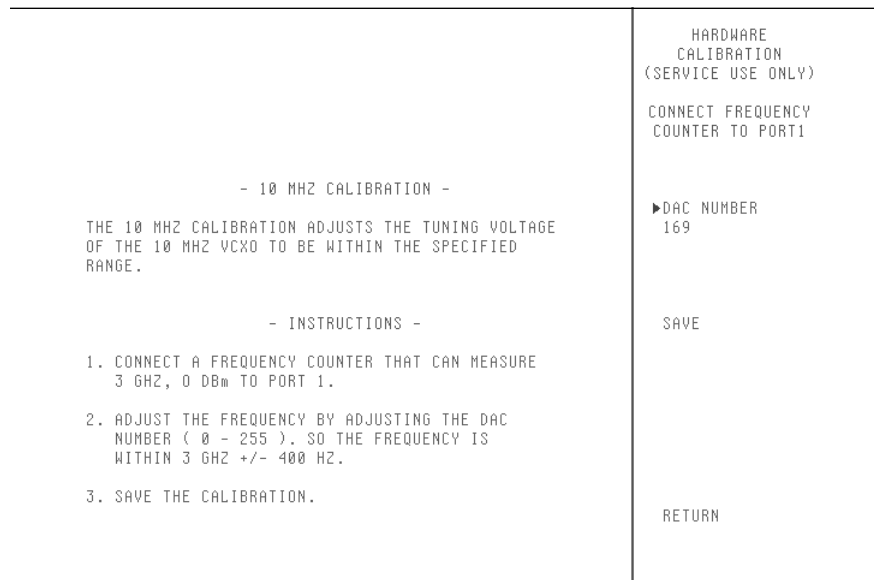

Figure 5-4. Manual 10 MHz Calibration
5. Press the SAVE soft key to save the calibration. Refer to Figure 5-4.